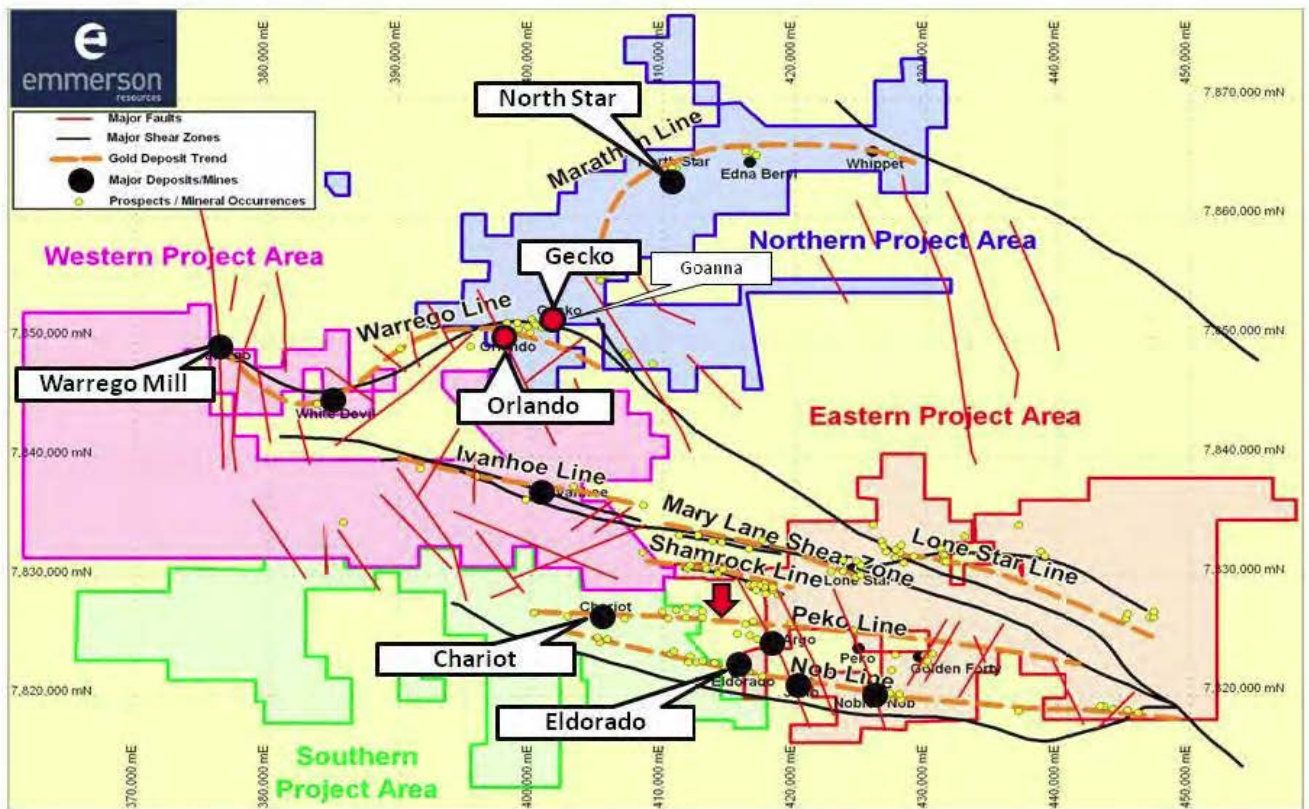

Figure 1 – location diagram of Chariot and Eldorado, showing major trends and structures
This initial campaign consists of approximately 2,500m of both Diamond and Reverse Circulation (RC) drilling aimed at establishing further high grade gold resources around the Eldorado and Chariot deposits (fig 1). Both of these historic mines are identified as high priority targets to build on the current JORC Resources – Chariot with JORC resources of 170,000t at a grade of 17.4g/t (ASX 28 November 2013), and Eldorado being an historic high grade gold producer (122,000 ounces at 17.9g/t) but with significant untested potential.